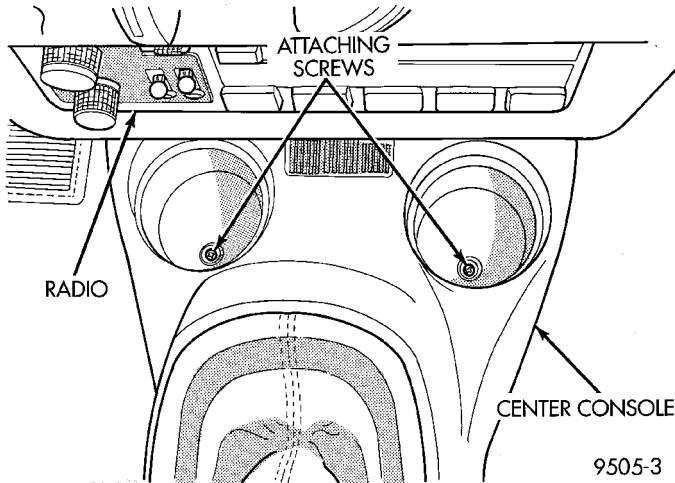

Fig. 7 Attaching Screws At Front Of Center Console
(4) Remove the two screws located in cup holders (Fig. 7), attaching front of center console assembly to console bracket.